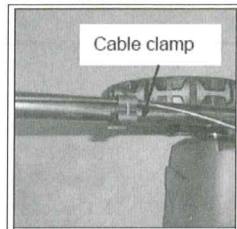

Fig.2G
5. Attach the cable-clamp to the position shown and then attach the cable. (Fig.2G)